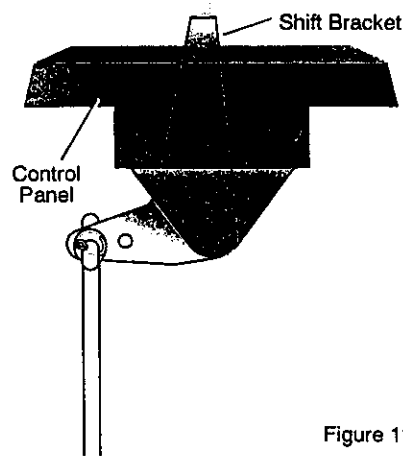

Figure 11
3. Position speed selector lever assembly as shown in Figure 11.